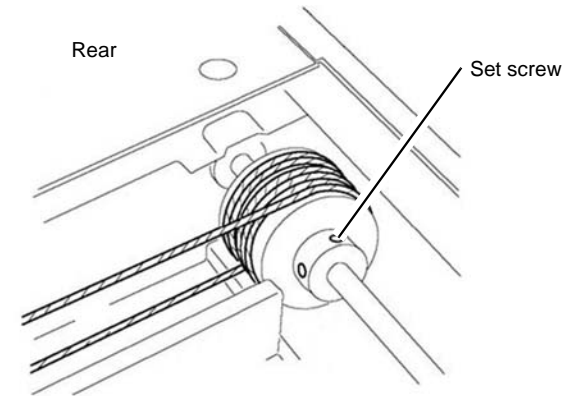

Figure 7 Second rear set screw
10. Tighten the other rear set screw, Figure 7.